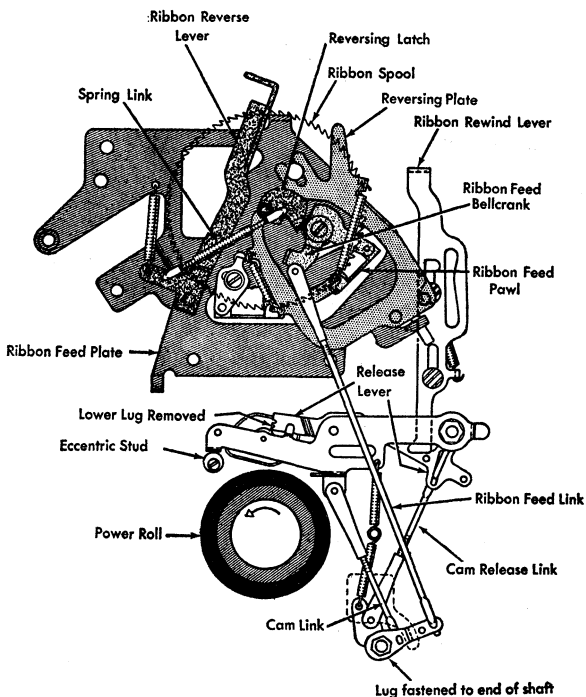

Figure 58. Ribbon Feed Mechanism
1. CAM CLEARANCE. Adjust this by rotating its eccentric stop so that with the cam released and the power off, the release lever will rest on the rear half of the cam lug. The eccentric and lock nut are on the left side frame and may be reached through an opening of the power roll pulley (Figure 58).
2. CAM RELEASE LINK. Adjust this so that the ribbon cam is released when any type face is $3/4" \pm 1/8"$ from the platen (Figure 58). A variation in the tripping point between different type bars may be an indication that the vane on the ribbon lift bail is curved.
3. THE CAM LINK from the cam to the ribbon lift bail end plate is adjusted so that the bail end plate is $1/16"$ above the bottom of the slot in the side frame (Figure 58).